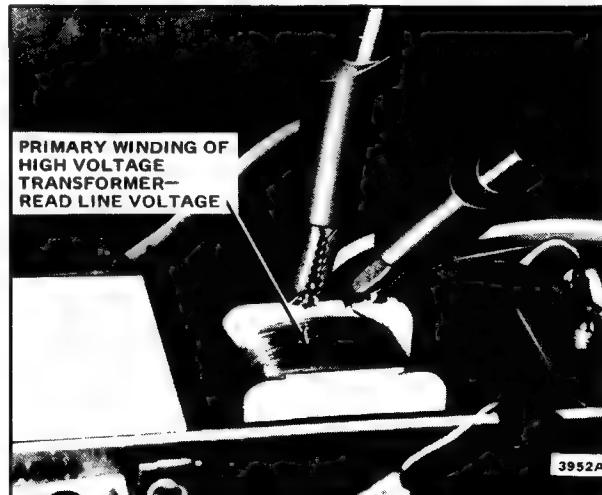

FIG. 19—CHECK FOR LINE VOLTAGE.
- (1) Turn off power.
- (2) Open the grille.
- (3) Remove the screws securing the cover on the power supply enclosure. Take off this cover.
- b. Check for correct line voltage on the primary of high voltage transformer. See Fig. 19.
- (1) If line voltage power is not present, check back through the power source wiring to locate the problem.
- (2) If the correct voltage is measured, continue with check c., below.